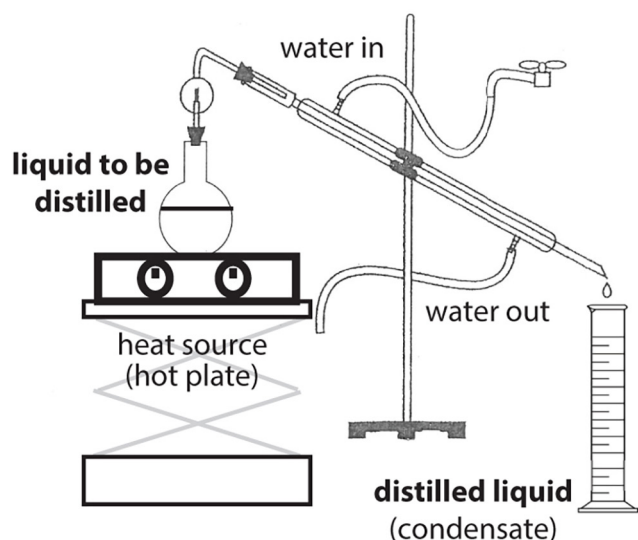

FIGURE 3. Distillation experiment and measurement laboratory setup.
The experimental set-up will look similar to Figure 3. Note temperature will be measured with an IR thermometer:
2. Place the reservoir, which you filled with the measured amount of water on the distillation apparatus, and be sure it is in contact with the hotplate (Figure 3).